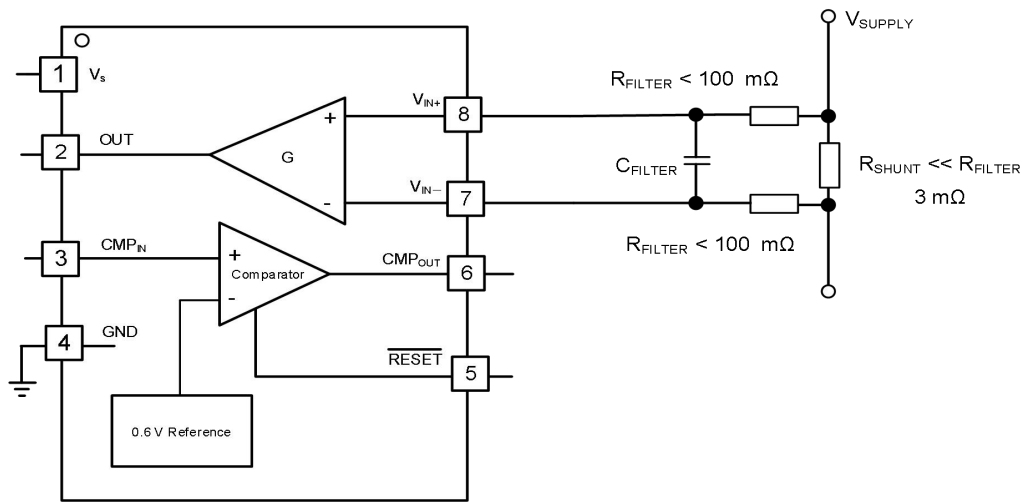

Figure 9. Input filter
One possible location for filtering is at the output of the DIO221X series, in which case the output impedance of the internal buffer increases. Adding a filter at the input pins of the DIO221X series is a better option although the input impedance makes the input filtering more complicated as shown in Figure 9. To minimize the initial shift in gain and effects of tolerance, use the lowest resistor values. Equation (1) tells the effect on initial gain.